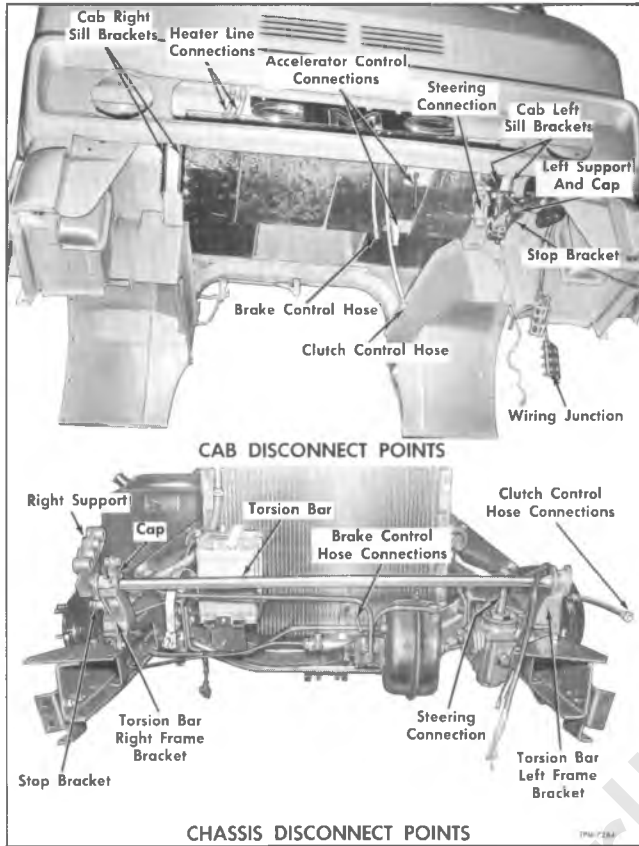

Figure 32—Cab and Chassis Disconnect Points (Typical)
9. Raise cab slightly to clear cab lift mechanism, then forward and up to clear shift control panel. Figure 32 shows cab and chassis disconnect points.
NOTE: Cab tilt torsion bar, check link, and right cab to sill support should be in position on chassis as shown in lower view of figure 32.